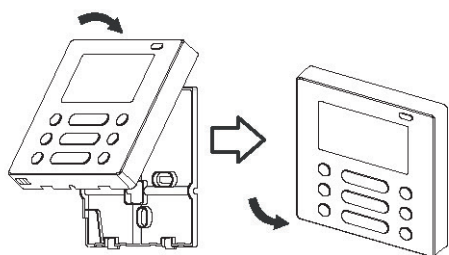

Fig. 3-11
- After adjusting the upper case and then unclipping the upper case; avoid clamping the wiring during installation. (Fig. 3-11)